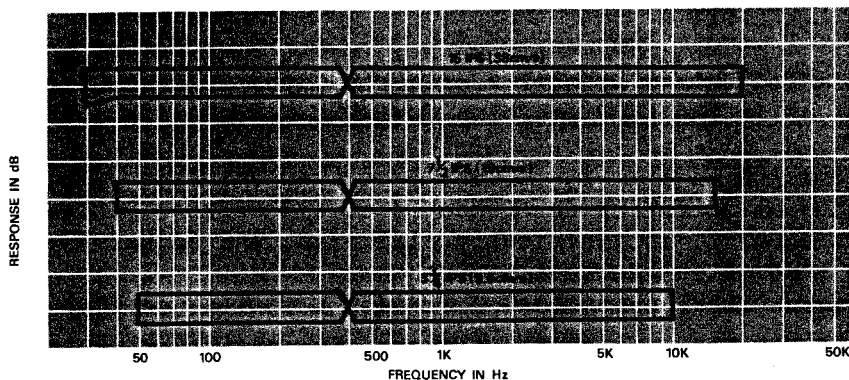

Fig. 7-4 Frequency Response Limits -Playback-
14. Compare the readings with the response limits given in fig. 7-4.
17. Compare the readings with the response limits given in fig. 7-4.